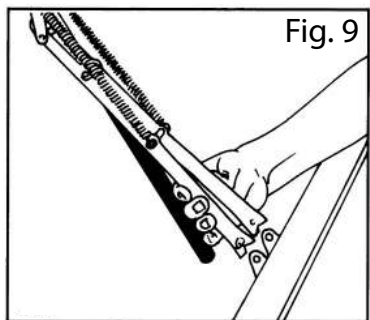

Fig. 9
13. Clip the arms onto the sill bracket as shown on Fig.9 – and make sure that the lid can be both opened and fully closed. If not, you will have to adjust the position of the brackets.